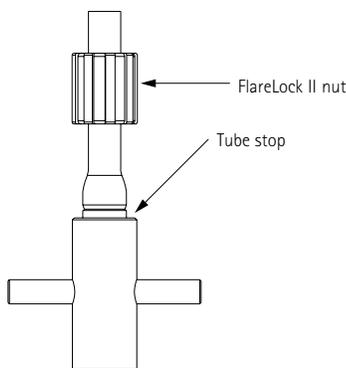

Figure 15
- Remove the PFA tubing from the heat source. Immediately push the flaring mandrel into the tubing until the end of the tubing reaches the tube stop (see Figure 15). Refer to Entegris' *Fluid Handling Products* catalog for available mandrel configurations.